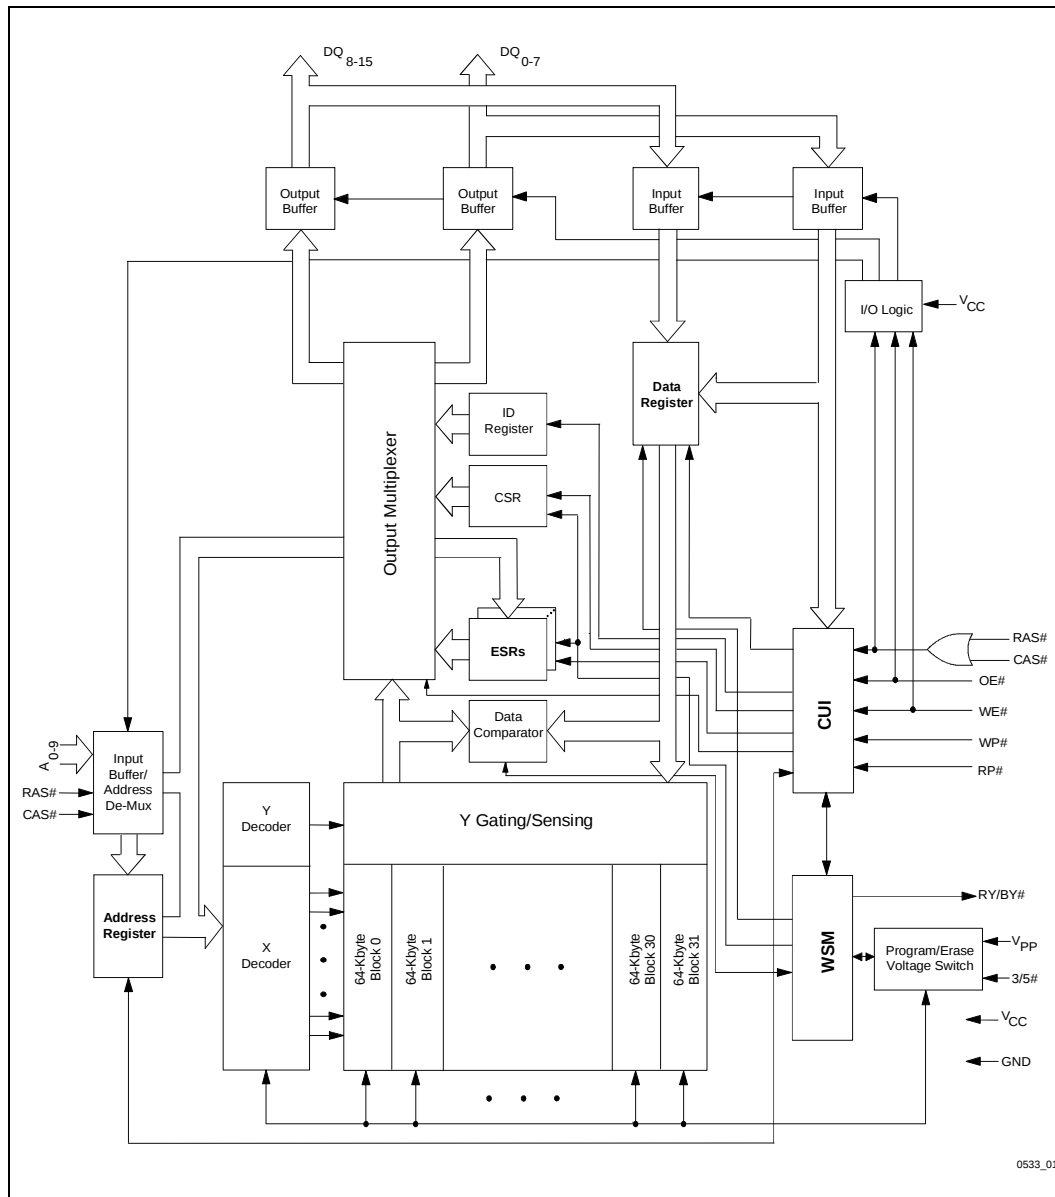
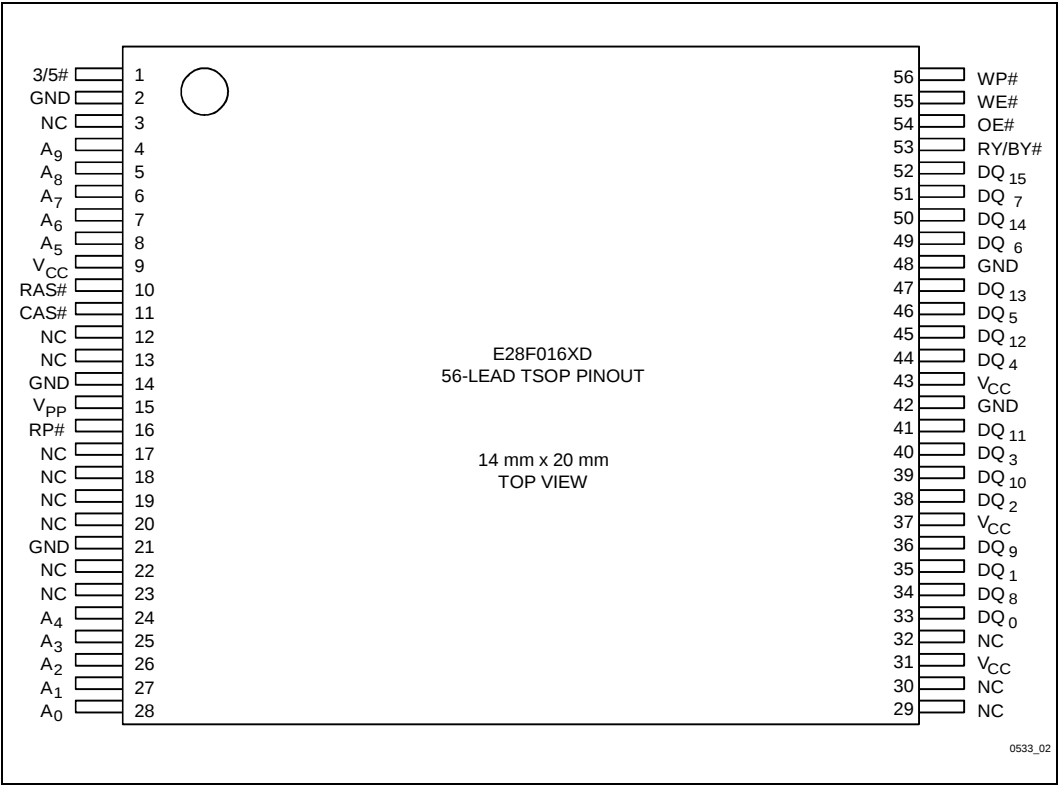

Figure 1. 28F016XD Block Diagram
Figure 2. 28F016XD 56-Lead TSOP Type I Pinout Configuration
-003	Added 3/5# pin to Pinout Configuration (Figure 2), Product Overview (Section 1.1) and Lead Descriptions (Section 2.1) Modified Block Diagram (Figure 1): Removed Address/Data Queues, Page Buffers, and Address Counter; Added 3/5# pin Added 3/5# pin to Test Conditions of I_{CC2} and I_{CC5} Specifications Modified Power-Up and Reset Timings (Section 5.9) to include 3/5# pin: Removed t_{5VPH} and t_{3VPH} specifications; Added t_{PLYL}, t_{PLYH}, t_{YLPH}, and t_{YHPH} specifications Corrected TSOP Mechanical Specification A1 from 0.50 mm to 0.050 mm (Section 6.0) Minor cosmetic changes throughout document.
In addition, a significant 28F016XD change occurred between datasheet revisions 290532-002 and 290532-003. This change centers around the addition of a 3/5# pin to the device's pinout configuration. Figure 2 shows the 3/5# pin assignment for the TSOP Type 1 package.
The 28F016XD 56-Lead TSOP Type I pinout configuration is shown in Figure 2.